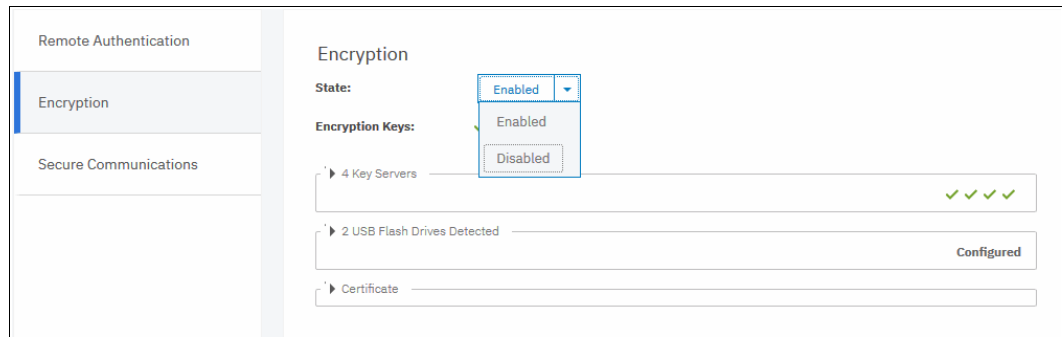

Figure 13-90 Disabling encryption on a system with both providers
1. Click **Settings** → **Security** → **Encryption** and click **Enabled**. A menu is displayed if no encrypted objects exist. Click **Disabled** to disable encryption on the system. Figure 13-90 shows an example for a system with both encryption key providers configured.